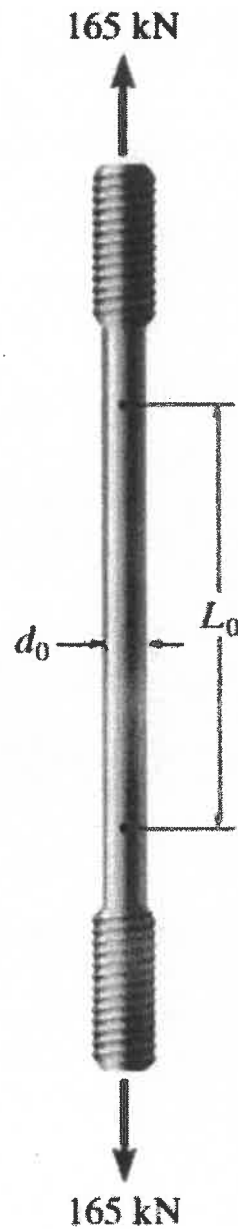

Figure 10: Aluminum Rod
*Refer Below - Figure10 : Aluminum Rod .*